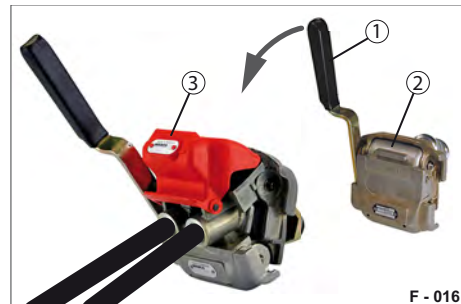

Fig. 19 Duo-Matic, coupled
- ▶ Push the handle (Fig. 19/1) of the Duo-Matic quick-release coupling socket downwards and slide the Duo-Matic coupling head (Fig. 19/3) under the opened protective cover.